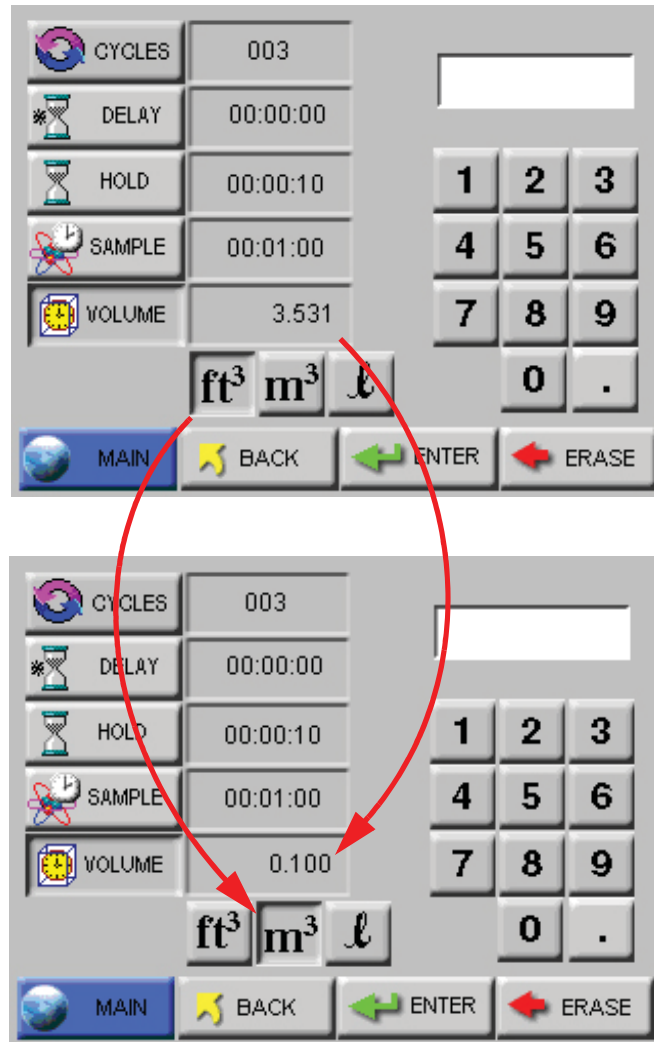

Figure 6-35 Changing Sample Volume Unit of Measure
- **SAMPLE VOLUME:** Instead of selecting a specific Sample Time, the instrument can be set to measure a specific Sample Volume in cubic feet (ft³), cubic meters (m³) or liters (l). When this is set, the corresponding Sample Volume will automatically be set. See Figure 6-35.